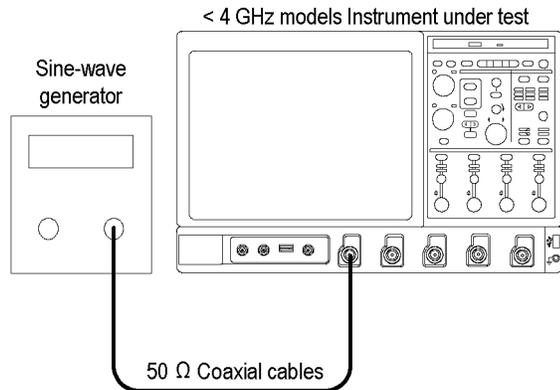

Figure 44: Serial trigger clock recovery range test hookup, DPO7000C Models
- a. Hook up test-signal source 1: (See Figure 44 on page 326.)